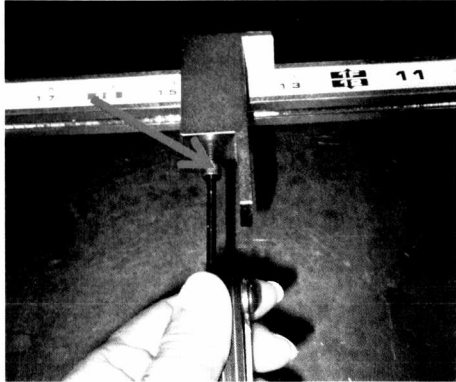

Figure 1.
- 2.) Using Allen wrench, loosen the set screw on the float stop (Figure 1).